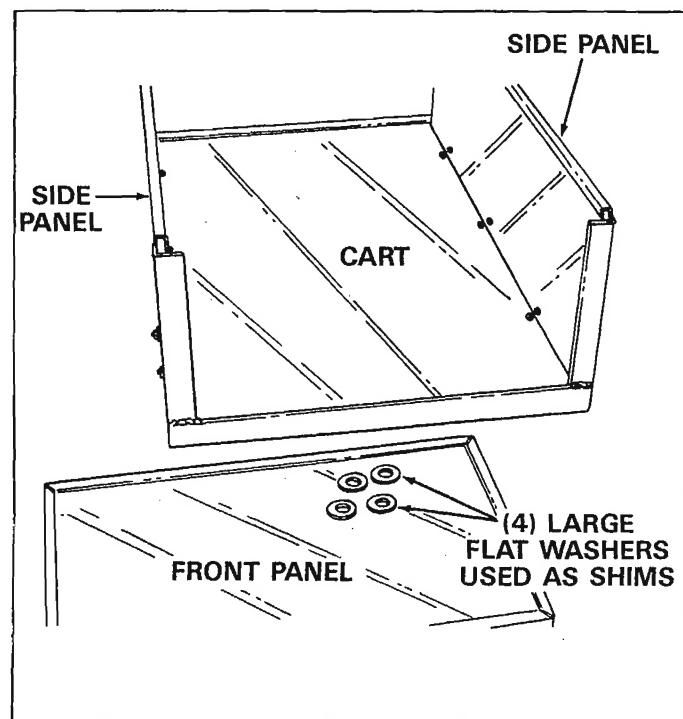

FIGURE 8
15. Lay cart down on floor, so that the sides are up in a normal position. Remove the front panel, by sliding it up, and remove the four large washers you used for shims. See figure 8.